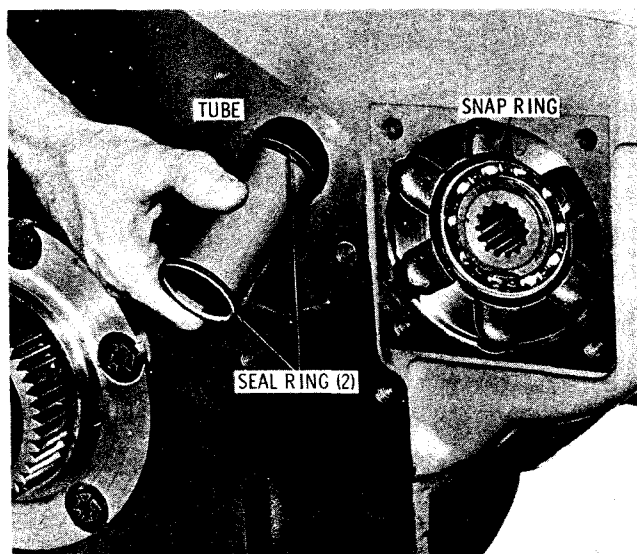

Fig. 5-22. Removing oil suction tube
(19) Remove the oil suction tube (fig. 5-22). Discard the two seal rings. Remove the snap ring which retains a ball bearing.